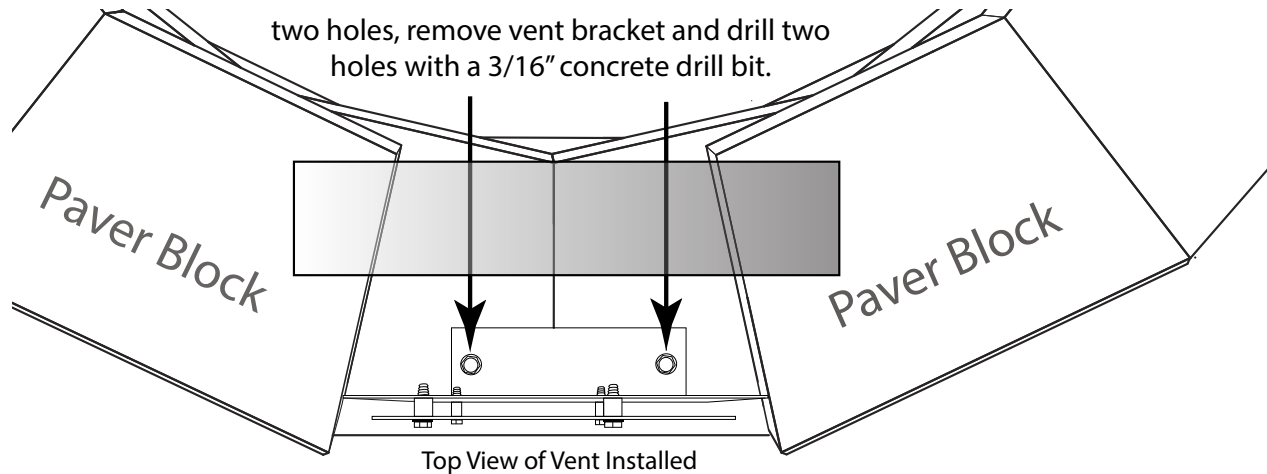

Fig. 4 Top view of vent installed with lintel (shaded area) supporting the back side.
Place the lintel across back side of the paver block to support your next row of blocks. See the shaded area in figure 4 showing the placement of the lintel. Securing the lintel with some type of adhesive is optional.
STEP 3: After you have determined the location and measured the width, install the vent kit bracket and mark the inside area as shown in figure 4.